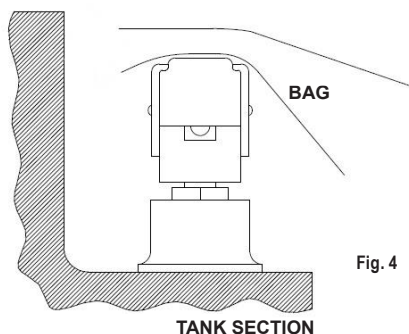

Fig. 4
- Now place the bag inside the vacuum chamber with the open inlet of the bag on the sealing bar perfectly flat. Any exceeding length of the bag must be inserted into the gap between the tank and the sealing bar (Fig. 4).
Our vacuum chamber sealer can vacuum-pack liquid or semi-liquid products (e.g. soups, sauces, etc.), extending their shelf life and preserving their flavour and hygiene (Fig. 4).